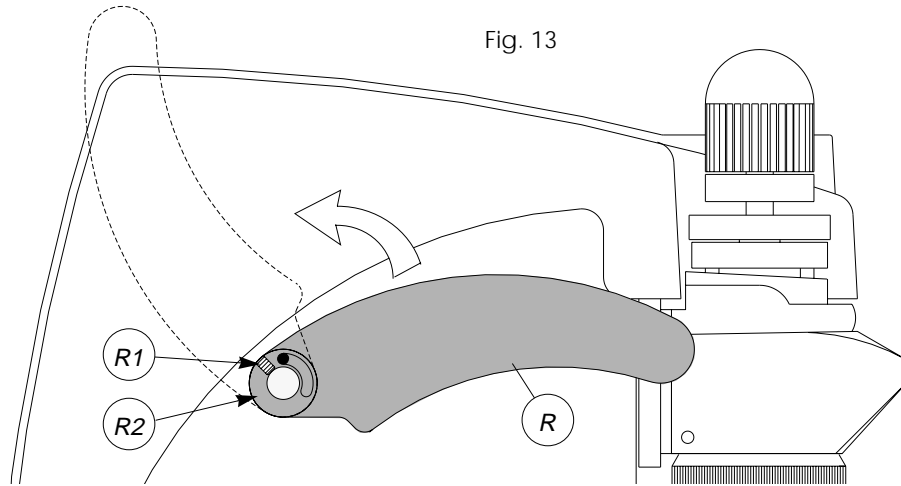

Fig. 13
- loosen the grub screw (R1) (Fig.13).